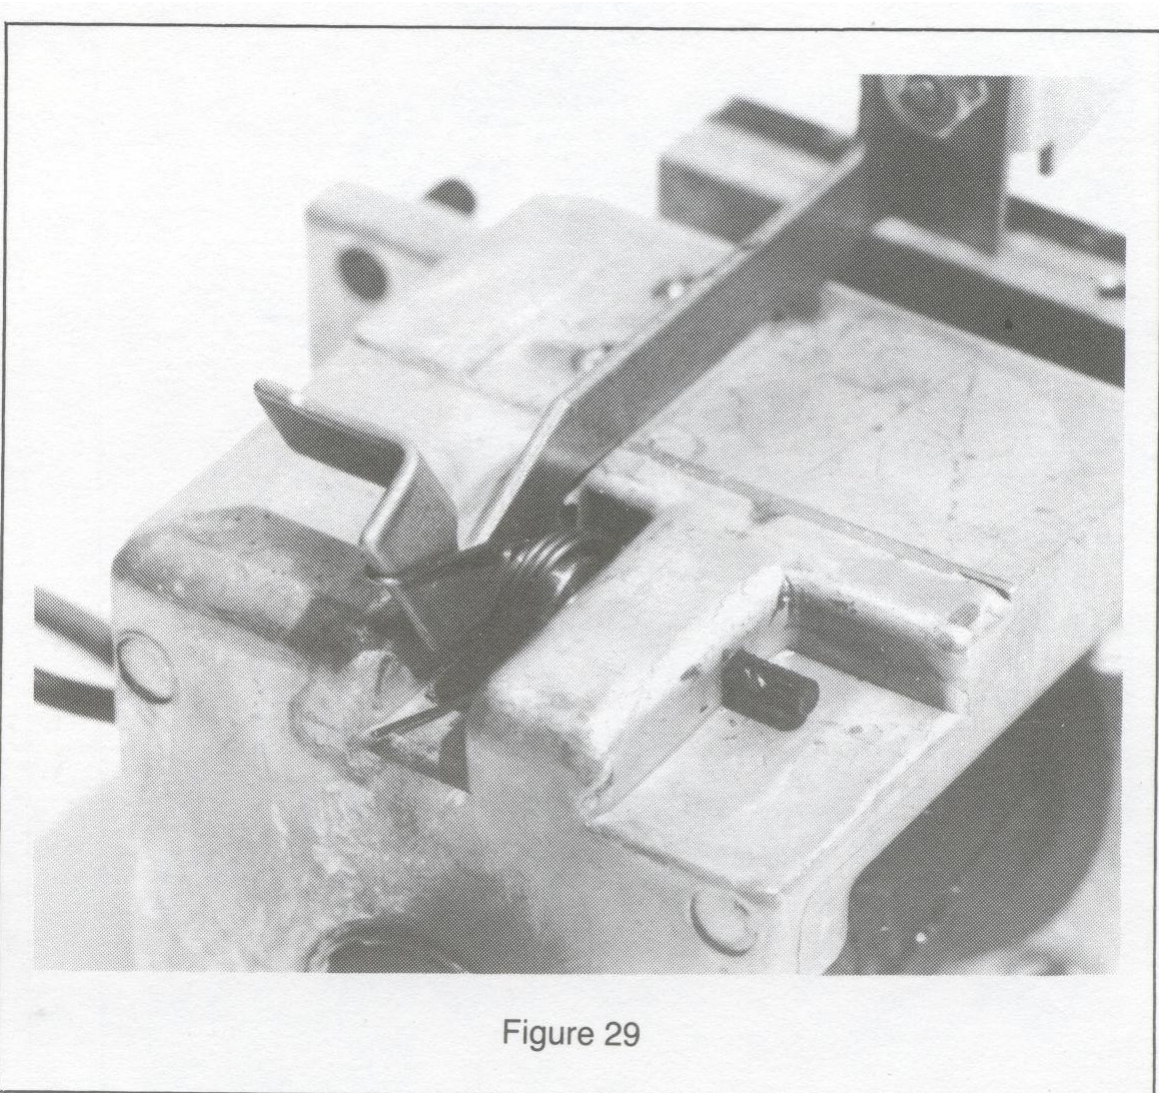

Figure 29
- The trigger will pull free at this point. Remove carefully, being sure that trigger return spring does not drop off. Be sure that spring is in correct location when reinstalled (*figure 29*).